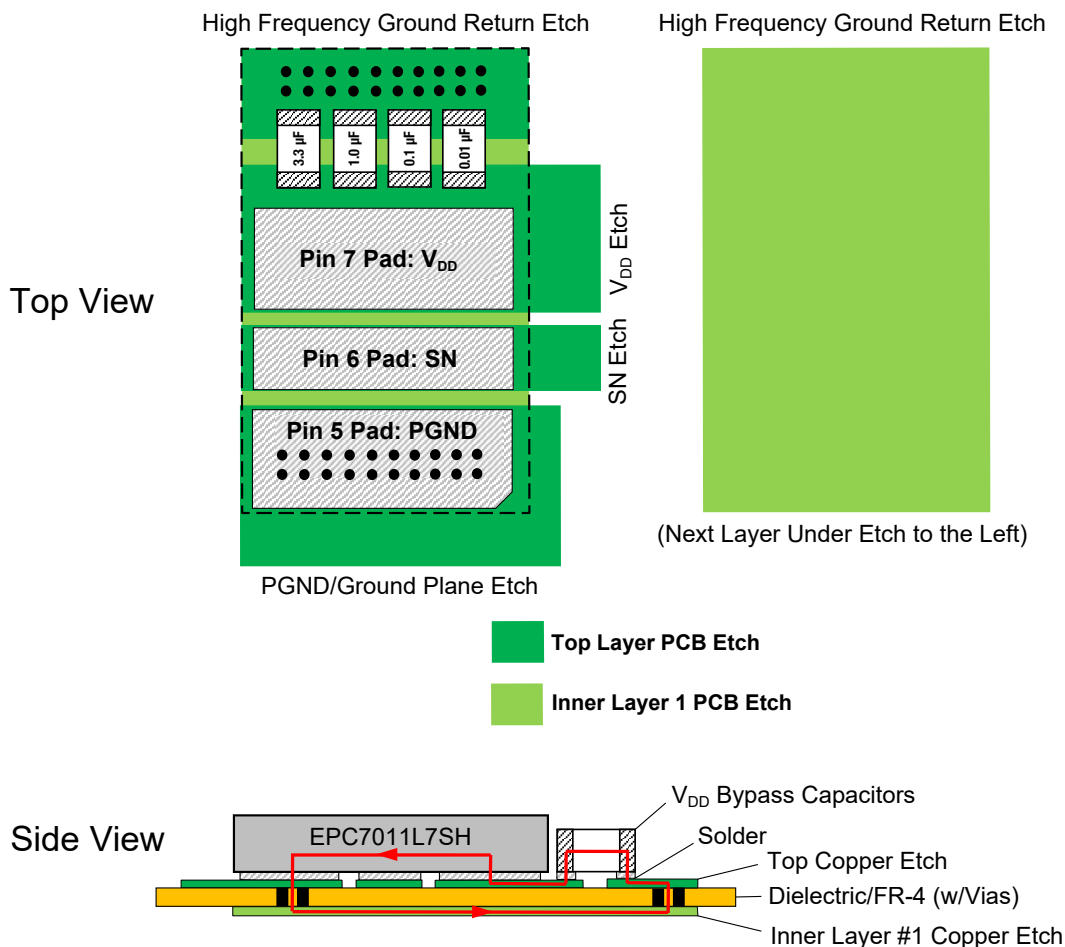

Figure 4. Recommended Optimum V_{DD} -to-PGND Power Supply Bypass Capacitor Layout (Not to Scale)
Because of the extremely high rate-of change of voltage seen at the SN output it is recommended that a minimum of one (1) 3.3 μF microfarad ceramic capacitors, one (1) 1.0 microfarad ceramic capacitor, one (1) 0.1 microfarad ceramic capacitor and one (1) 0.01 microfarad ceramic capacitor, all with sufficient voltage de-rating, be connected from V_{DD} to PGND. All four of these capacitors should be low ESR types, if possible. It is strongly recommended that these capacitors have the smallest possible case sizes possible such that they inscribe the smallest possible loop area between V_{DD} and PGND so as to minimize the inductance related to this loop area. Also, to reduce the inductive loop between V_{DD} and PGND is strongly recommended that an induction loop cancellation layout of the high frequency power supply capacitors be employed. Figure 4 illustrates the recommended optimum layout and placement for the V_{DD} -PGND high-frequency bypass capacitors.
It should be noted that in Figure 4 that the light green copper etch area on the PCB's inner layer #1 is positioned directly beneath the copper etch clad on the top layer, as indicated by the dashed line.
The requirements of each PCB implementation of the EPC7011L7SH may not allow the recommended optimum layout shown in Figure 4 to be implemented, but care should be taken to keep the recommended layout as physically and mechanically close to it as possible.